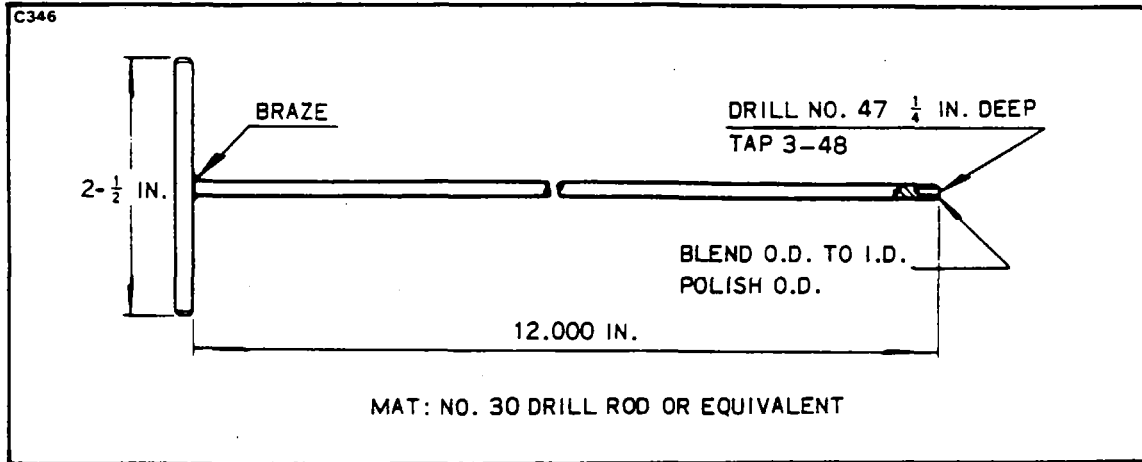

Figure 8-31. Assembly Tool
1. Fabricate a tool as shown in Figure 8-31 for installing the insulating Sleeves over cable terminals.